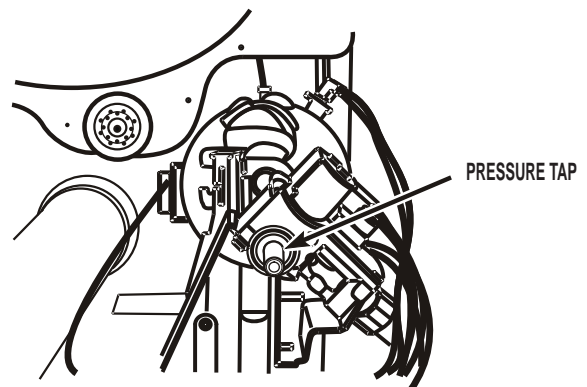

FIGURE 4
- Insert pressure tap and finger-tighten. See *Figure 4*.